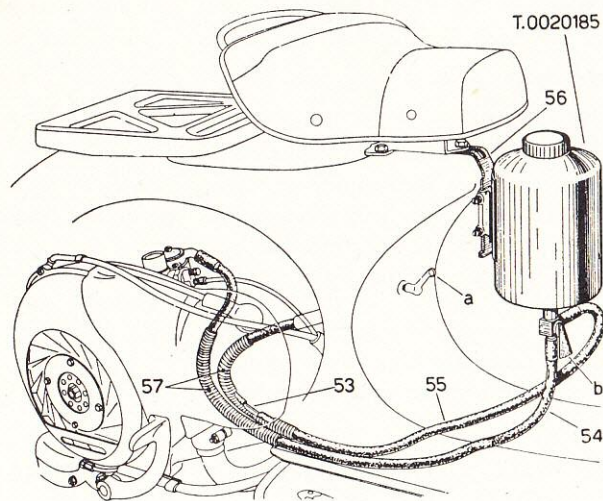

Fig. 106.
- (a) Clamp the tank bracket (part No. 56) between the chassis and the saddle as shown in Fig. 106, then tighten the screw again.